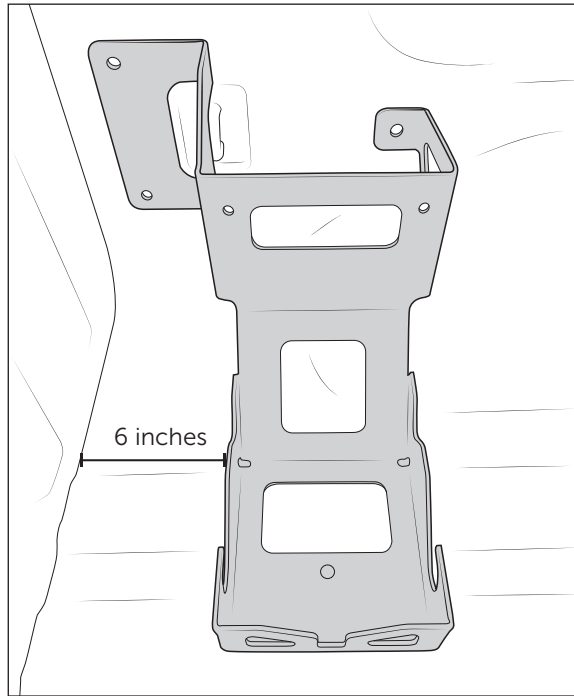

Figure 7
1. Align the Bed Floor Bracket on the bed floor 6" away from the bulkhead (fig. 7). The bracket will sit flush to the bed side. Be sure the hole in the bottom of the bracket lines up centered in a "valley" of the bed floor. NOTE: If your truck has a spray in bed liner add roughly 3/16" to the 6" measurement from bulkhead.